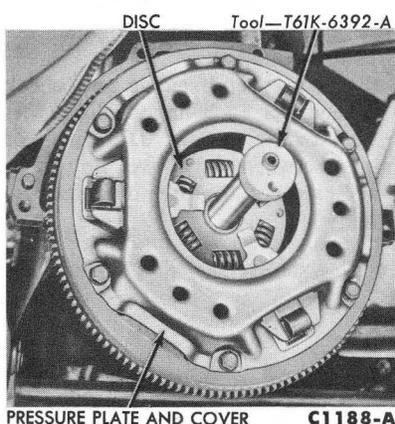

FIG. 8—Disc Alignment
2. Place the clutch disc and the pressure plate and cover assembly in position on the flywheel (Fig. 8). Start the retaining bolts finger-tight.